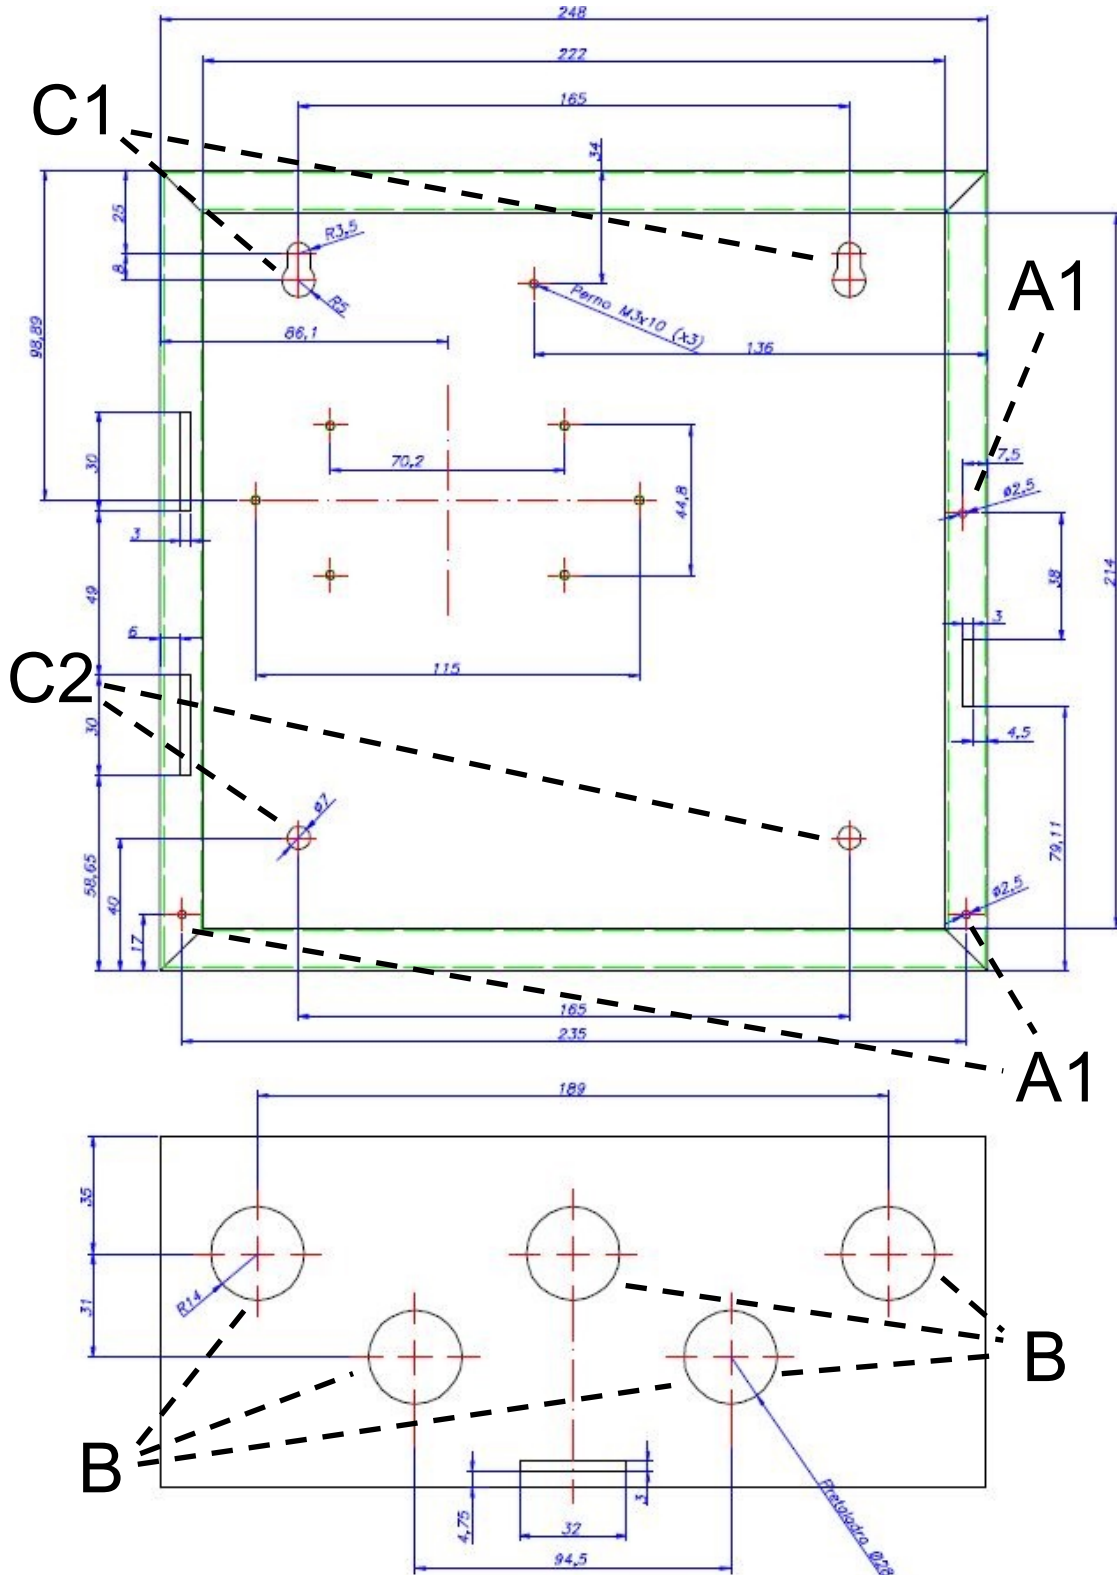

Figure 3: Panel control plans; holes for fastening and passage of cables.
The panel control is based in a rectangular metallic chest, a cover holder on the front, which tilts on the left side of the chest as a door and is kept closed with a screw located on the right side (A1 in *Figure 3*), and a separate plastic door that sits on top of the central, and is fixed to it with 2 screws located in the lower vertices (A2).
The control panel will be fixed above vertical wall. The lateral slots of the control panel must remain free for a correct heat evacuation. *Figure 3* shows the $\phi 28\text{mm}$ knockouts for cable entry (B) located on the upper side and on the lower side (in case it is necessary to use additional entries), and the holes located in the bottom for the box for fixing the control panel to the vertical wall of: $\phi 10/\phi 7\text{mm}$ in the upper ones (C1) and $\phi 7\text{mm}$ in the lower ones (C2).